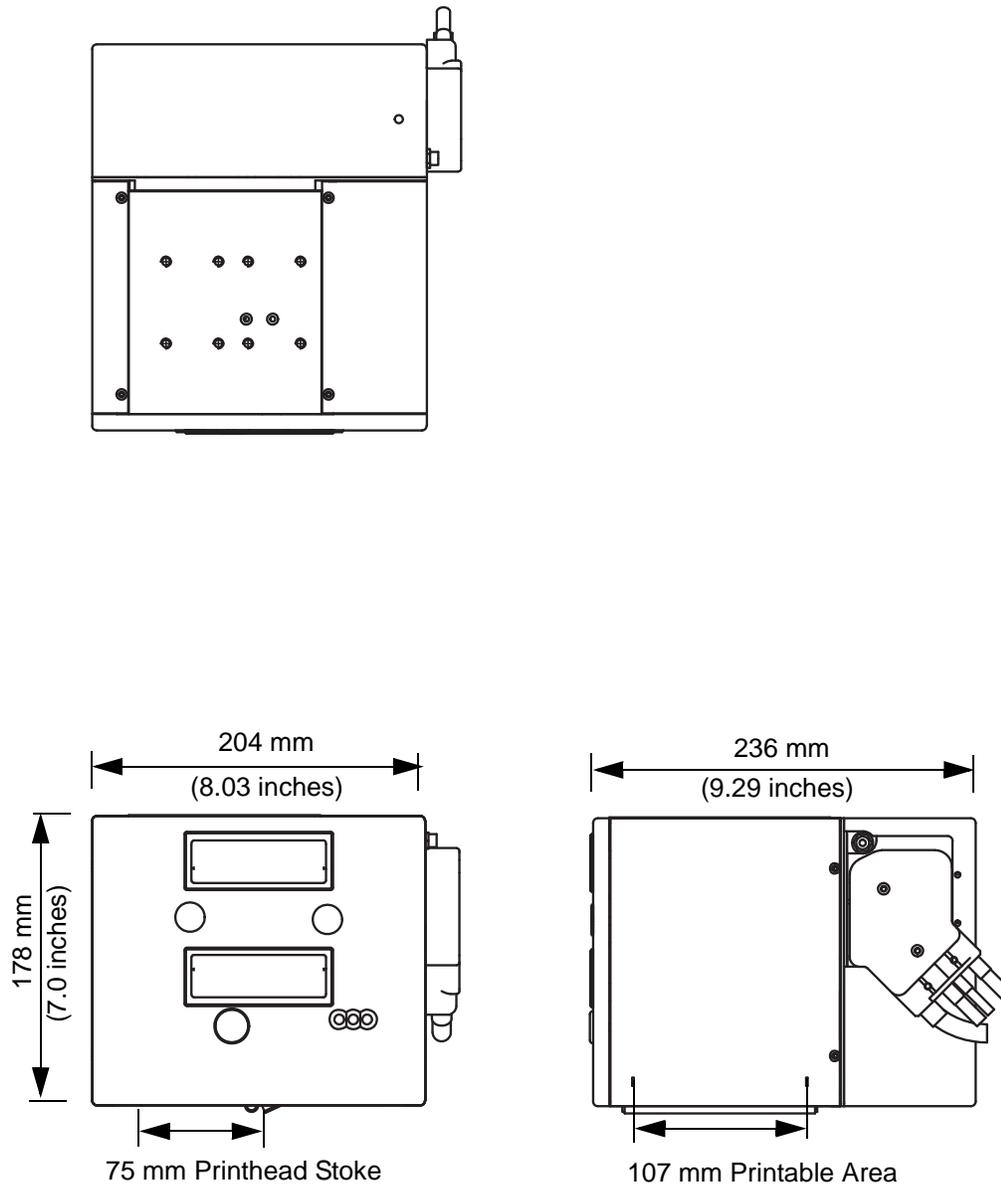

Figure 7-3: Videojet DataFlex 6420 107 mm RH Printer Dimensions
Figure 7-3 shows the dimensions of the 107 mm (RH) printer.